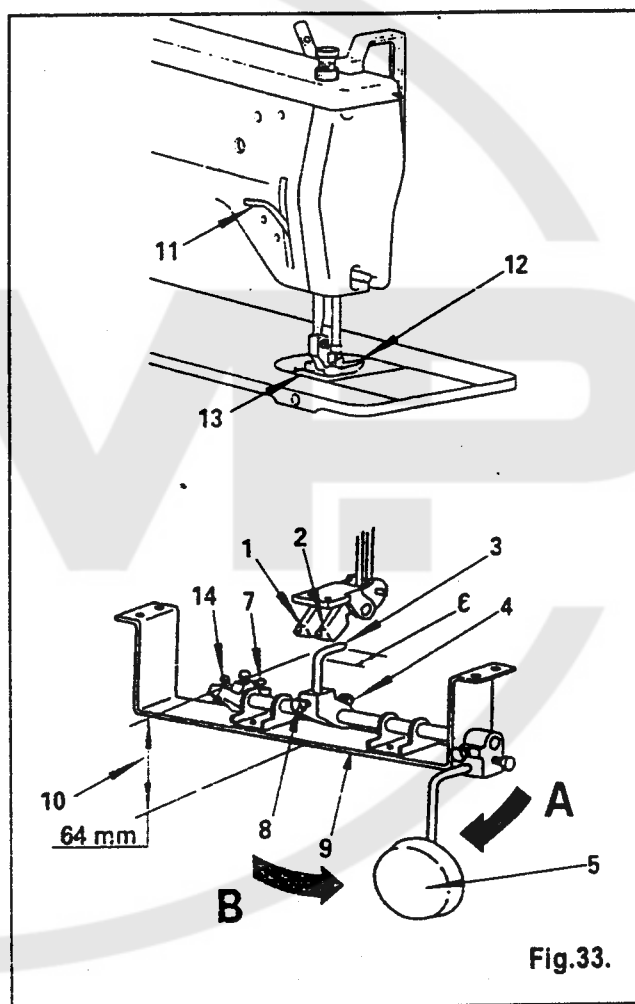

Fig.33.
Bell cranks (1) and (2) shown in Fig.33 are fastened to the underside of the bed. Bell crank (1) is used for lifting and lowering the presser foot with knee, and bell crank (2) is used for controlling the stitch width. (See Fig.33)
To raise or lower the presser foot with knee, loosen screw (4) holding the knee lifter shaft arm (3) and move knee lifter shaft arm (3) just under the bell crank (1), and firmly tighten screw (4). (See Fig.33)
Loosen the lock nut holding screw (7) and turn screw (7) as required, so that the bent end (6) of knee lifter shaft arm (3) will be almost horizontal when knee lifter knee plate (5) is pushed as far as it will go in the direction indicated with arrow (A), then firmly tighten the lock nut. (See Fig.33)
With knee lifter shaft arm (3) set in position as described above, loosen screw (8) and move knee lifter shaft arm (3) up or down as required, so that height (10) from its bent end (6) to bracket (9) is 64 mm. (See Fig.33)
Raise presser foot (12) with presser foot lifter (11). Then loosen the lock nut holding screw (14) and turn screw (14) as required, so that knee lifter knee plate (5) when pushed in the direction indicated with arrow (B), will stop at a point (presser foot (12) raised approx. 9 mm from throat plate (13) surface) where presser bar lifter (11) will drop down from its raised position when presser bar is lifted a little higher than its normal up position. Then firmly tighten the lock nut. (See Fig.33)
When knee lifter knee plate (5) is pushed in the direction indicated with arrow (B), the presser foot (12) will rise and when knee plate (5) is released, presser foot (12) will be lowered. (See Fig.33)